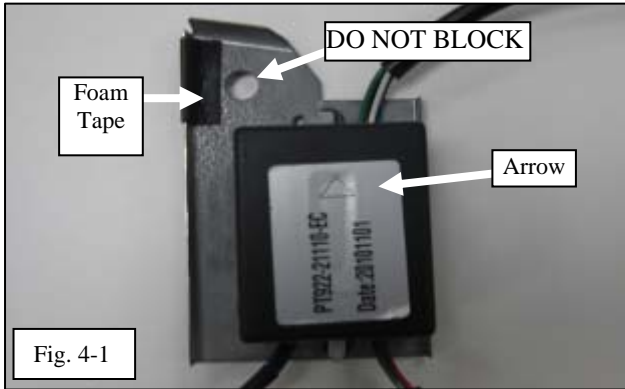

Fig. 4-1
- (1) Orient the ECU so that the arrow on the label is pointing up. (Fig. 4-1)
- (2) Wrap the top left bracket edge with a small piece of foam tape. (Fig. 4-1)